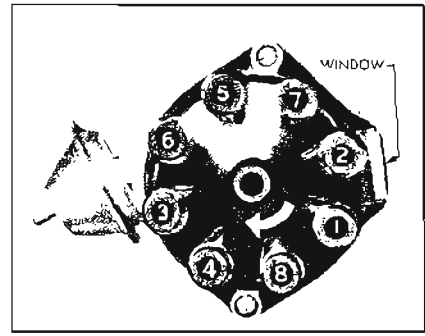
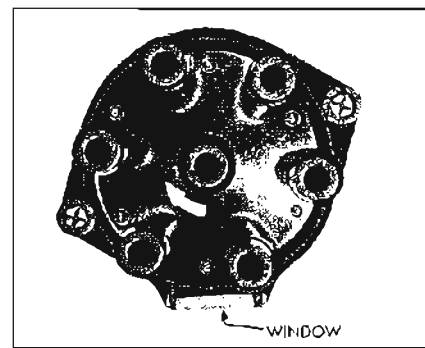

Figure 10-43—Installing Spark Plug Wires in Cap (V-8 Engine)
Figure 10-44—Installing Spark Plug Wires in Cap (V-6 Engine)
5. Install distributor cap. Make sure that spark plug wires are correctly installed in distributor cap, through clips on rocker arm covers, and on spark plugs. See Figures 10-43 or 44.
No. 1 spark plug wire is installed in the first distributor cap tower after the adjusting window, moving in the direction of rotation. The other wires are then installed in a clockwise direction according to the firing order. See Figure 10-43 for V-8 engines or Figure 10-44 for V-6 engines.